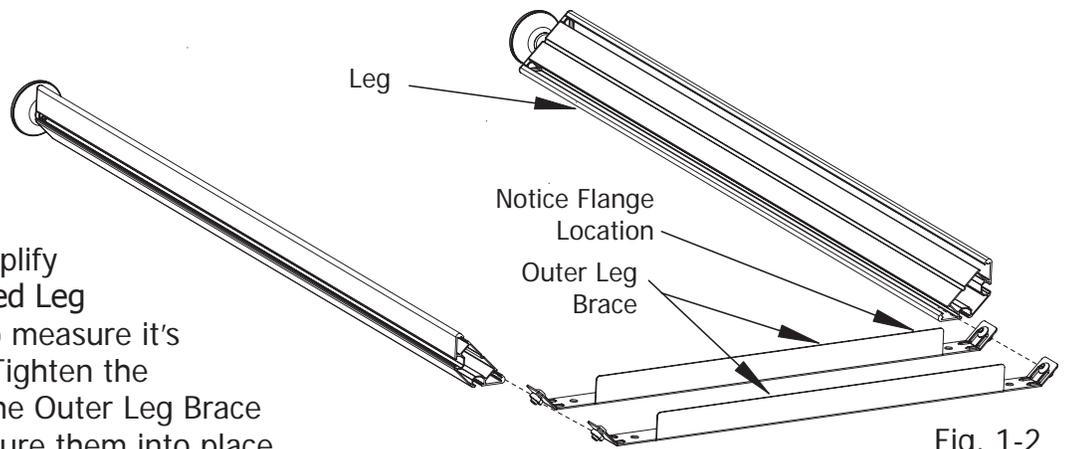
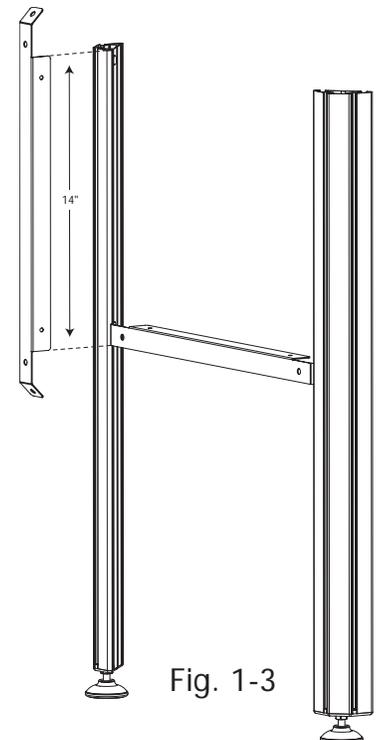

Fig. 1-2
Fig. 1-3
1-3: Slide (2) Outer Leg Braces onto (2) Legs, as shown in Fig. 1-2
1-4: Lay the Leg Assembly down as shown in Fig 1-2 to simplify this step. Adjust the first installed Leg Brace using another leg brace to measure its location, as shown in Fig. 1-3. Tighten the 6mm X 10mm SBHC screws in the Outer Leg Brace with a 4mm Allen Wrench to secure them into place.